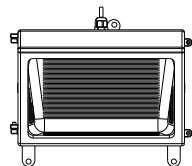

Figure 2
2. Put the fixture on the wall, make three marks according to 3 mounting kits, then drill 3 holes for them. (Figure 2)